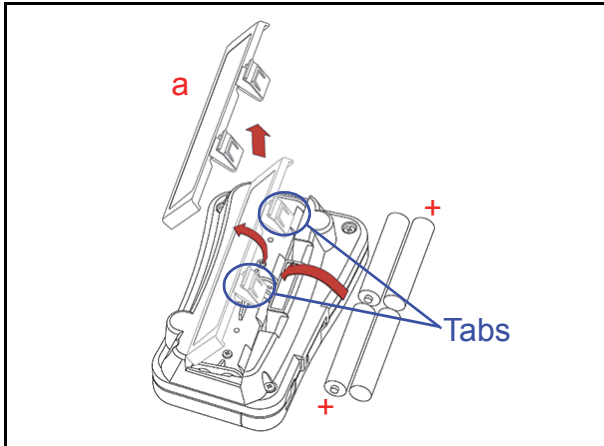

Figure 4 Type AAA Battery Installation
2. Install four (4) AAA Batteries into their correct polarized position in the direction illustrated in Figure 4.